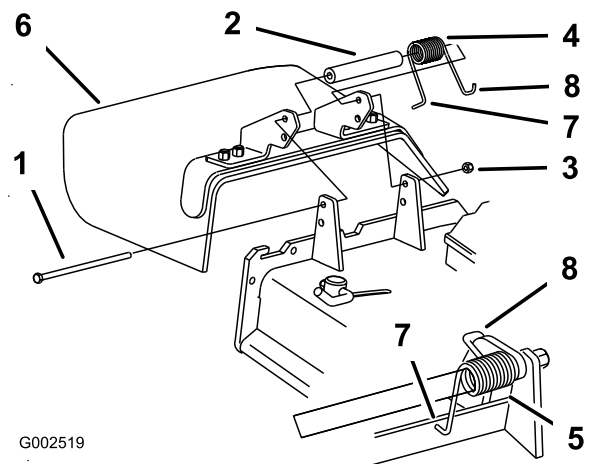

Figure 88
1. Remove the locknut, bolt, spring and spacer holding the deflector to the pivot brackets (Figure 88).
Note: Make sure the L end of the spring is installed behind the deck edge before installing the bolt as shown in Figure 88
5. Place the J hook end of the spring around the grass deflector (Figure 88).